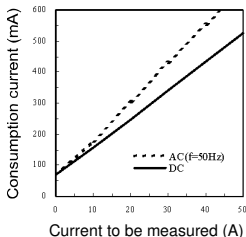
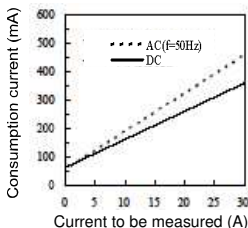

Figure 5. Current consumption* vs. current to be measured (typical for SS-540)
Figure 6. Current consumption* vs. current to be measured (typical for SS-550)
- The current consumption of this instrument depends on the current value to be measured. Use the instrument within the range where the total of the current consumption of it is 600mA or less. Refer to Figure 5 (for SS-540) or Figure 6 (for SS-550).